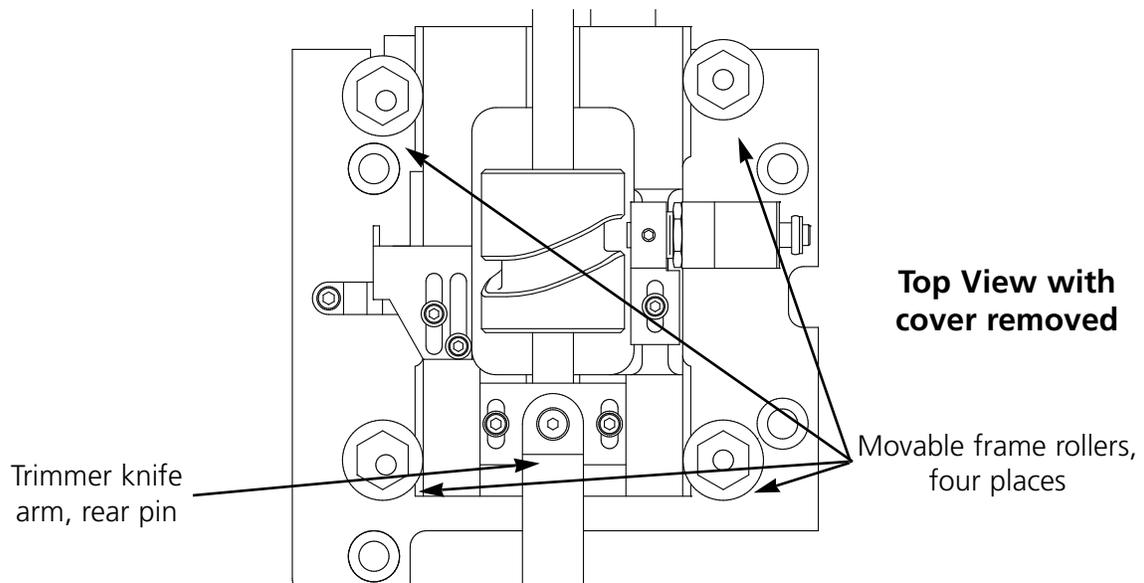

Figure 5-14
3. Place a drop of sewing machine oil at these points (shown in Figure 5-14):